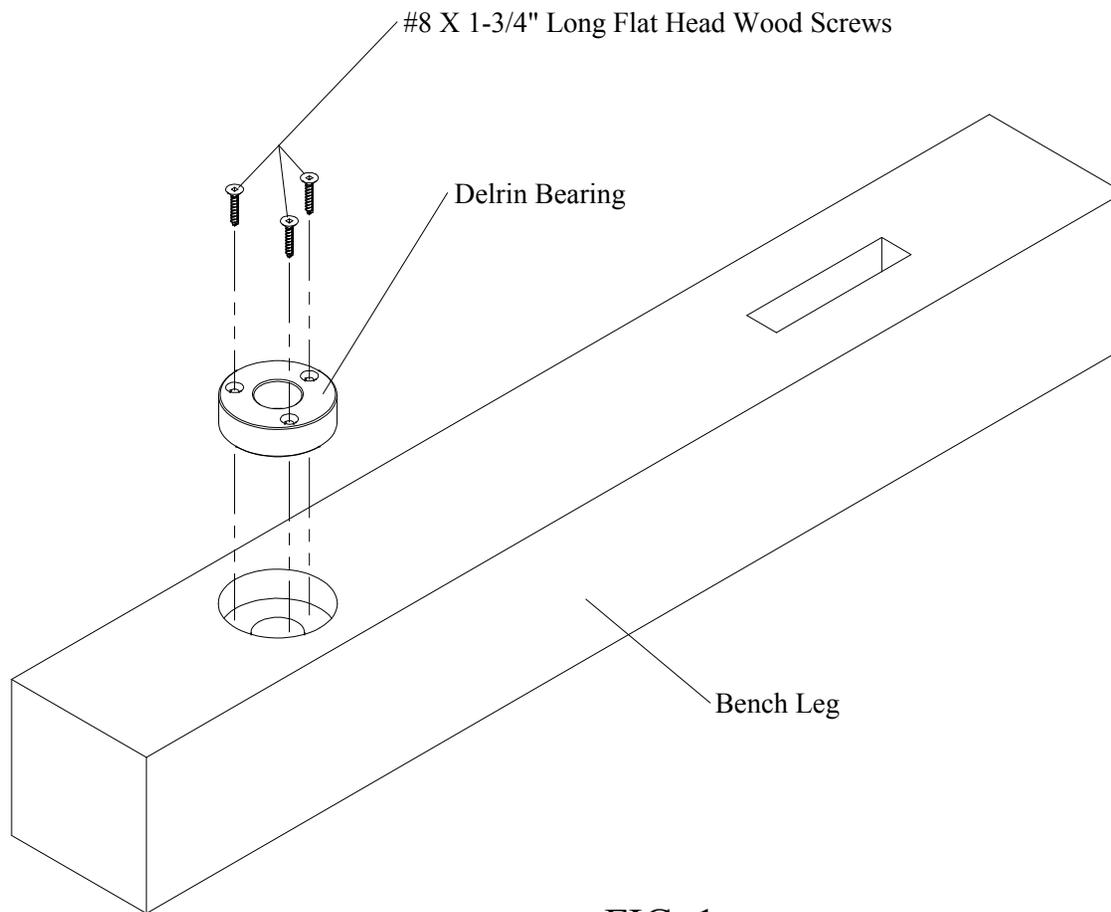

FIG. 1
Step 2: Insert the Delrin bearing into the 2-1/2" diameter hole in the bench leg. The bearing should be flush or slightly below the face of the bench leg. Mark the mounting hole locations and drill 1/8" diameter holes 1" deep. Fasten the bearing using the three flat head wood screws provided. See Fig. 1.